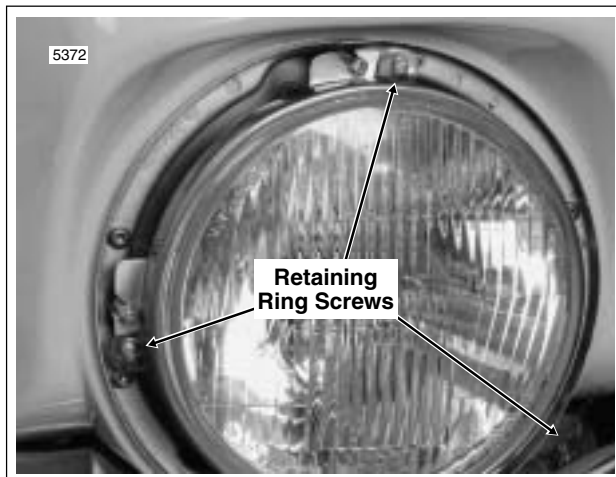

Figure 8-25. Remove Retaining Ring Screws (FLHT/C/U Model Shown)
2. Remove the three Phillips screws to free the retaining ring from the headlamp housing. See Figure 8-25. Carefully remove the lens and bulb assembly.